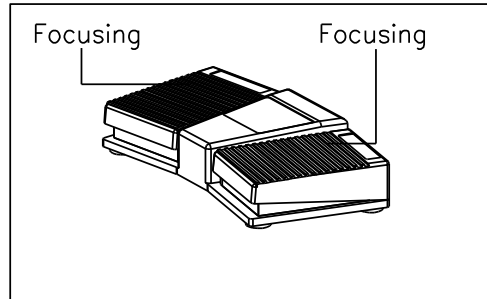

Fig.3
### 5.1 Use of foot control switch (Fig. 3)
- (2) For fine focusing, step down the left pedal of the foot control switch, the microscope moves down; while step down the right pedal, the microscope moves up(Fig.3).